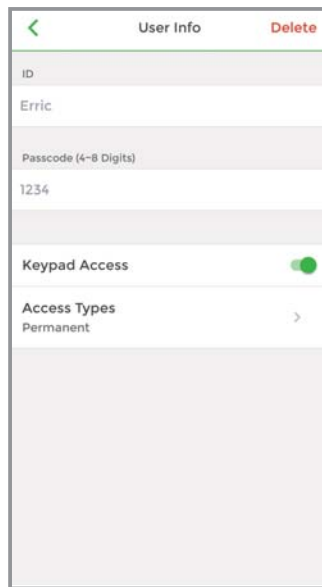

Figure 2
- d. Keypad Access : Enable / Disable keypad access for a user. (See Figure 2 below)